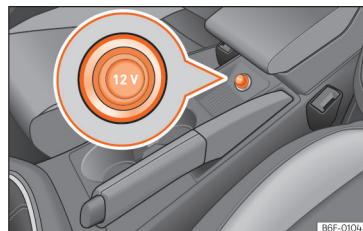

Fig. 135 Front power socket.
- Remove the plug from the socket located in the centre console » **Fig. 135**.